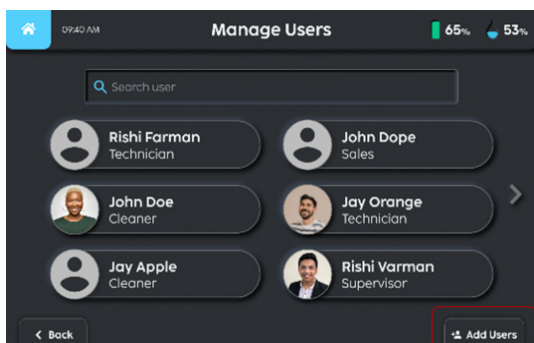
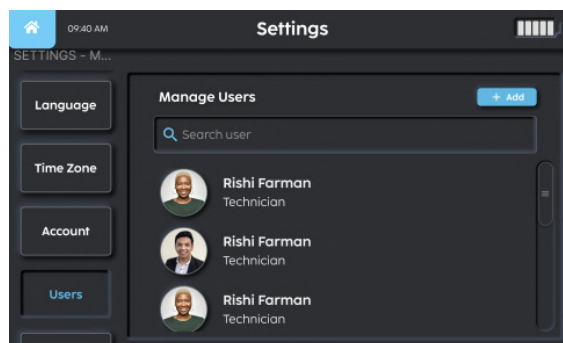

FIGURE 3-12
FIGURE 3-13
3. On the 'MANAGE USER'/'USERS' screen, select 'ADD USER' (**Fig. 3-12, Fig. 3-13**).